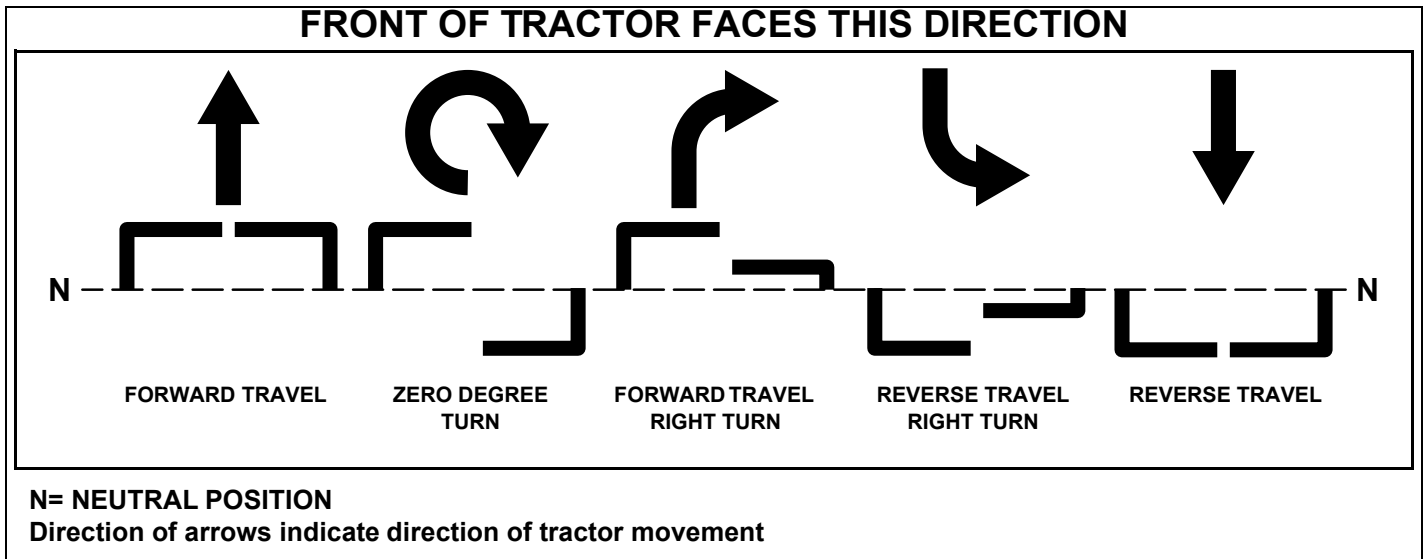

Fig. 4-6
**To go forward,** push steering control levers forward an equal distance (Fig. 4-6).
**To go in reverse,** pull steering control levers rearward an equal distance (Fig. 4-6).
**To turn left,** move the right steering control lever farther forward from neutral than the left steering control lever. (Fig. 4-6)
**To turn right,** move the left steering control lever farther forward from neutral than the right steering control lever. (Fig. 4-6)
**“0” degree turn,** move one steering control lever forward and the other steering control lever back of neutral. This will allow the drive wheels to counter-rotate. (Fig. 4-6)